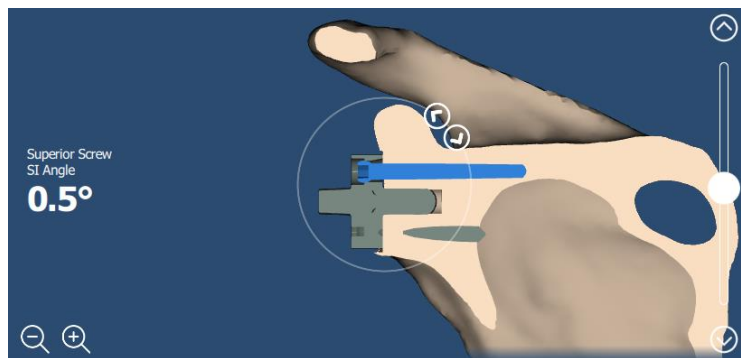

Figure 20 - Angular adjustment of the peripheral screws in the 2D views
If one of the peripheral screws is selected and the user clicks on one of the 2D views, a manipulator allowing angular adjustments of the screw is shown (Figure 20). The screw selected is highlighted in blue.
The 2 arrows contained in white circles (Figure 20) allow adjustment of the peripheral screw angle. The current screw supero-inferior (SI) angle is displayed in the coronal 2D view, on the lateral side of the bone. The current screw antero-posterior (AP) angle is displayed in the transverse 2D view, on the lateral side of the bone.